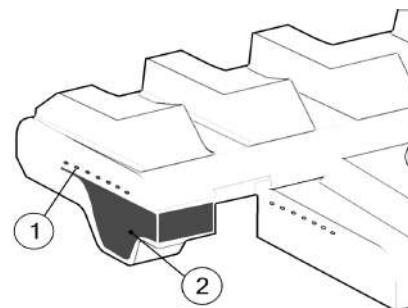

Figure 40 - Rubber Track Structure
The structure of the rubber track is shown in Figure 40. The steel cables (1) and metal core (2) are embedded in the rubber.